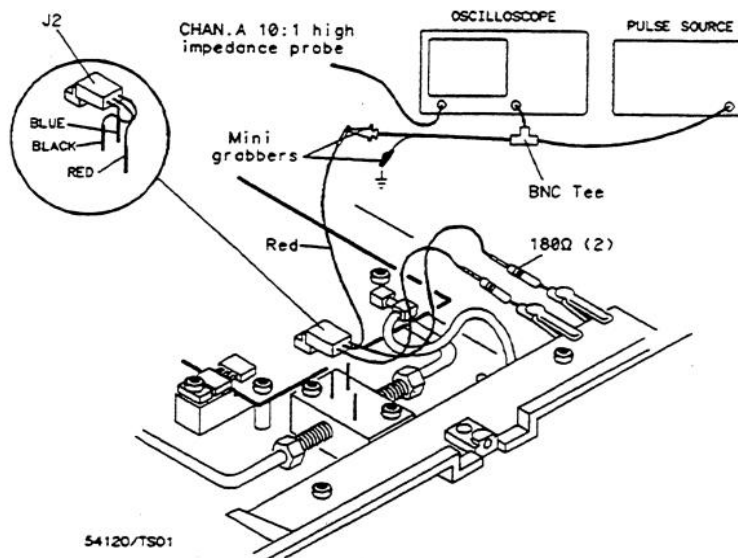

Figure 7-4. Troubleshooting Equipment Setup
10. Connect a $180\ \Omega \pm 3\%$, 0.5 watt resistor to the black wire, and another to the blue wire. Connect other end of resistors to chassis ground. Refer to figure 7-4.
11. Set up equipment as shown in figure 7-4. Notice the red wire connects to a pulse source through a BNC tee. Set monitor oscilloscope channel B to $50\ \Omega$.